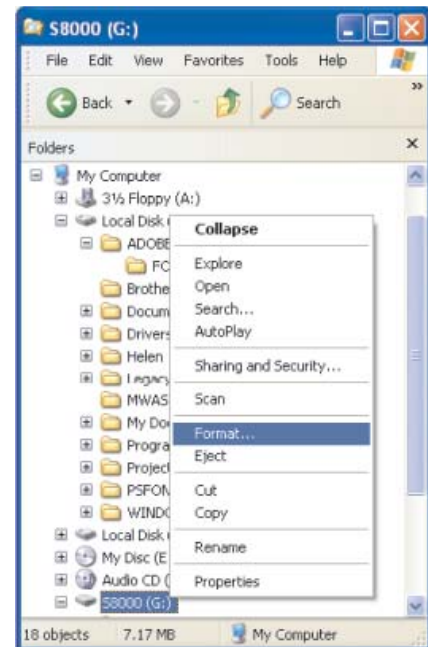

Figure 43 Select Format
3. The **Format** dialogue box is now presented as shown in *Figure 43*, and the disk capacity is reported on the top line (1). This will depend upon the type of disk used (470 MB in this example).
4. In the **File system** box (2), *Figure 43*, select **FAT32**.
5. In the **Allocation unit size** box (3), leave this set to Default allocation size.
6. If required, in the **Volume label** box (4), enter a volume label e.g. S8000.
7. The SD card requires a full format so leave the **Quick format** box (5) unchecked.